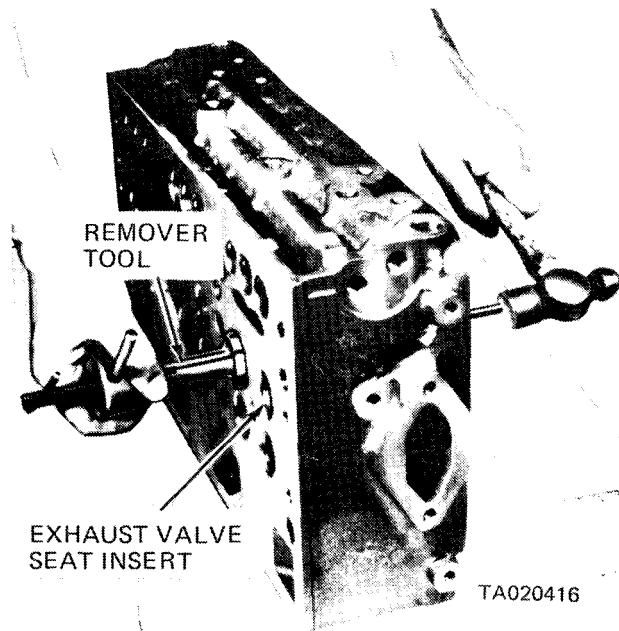

Figure 3-73. Exhaust valve seat removal.
(8) *Exhaust valve seat insert.* Place the cylinder head on its side and remove the exhaust valve seat insert as illustrated in figure 3-73.